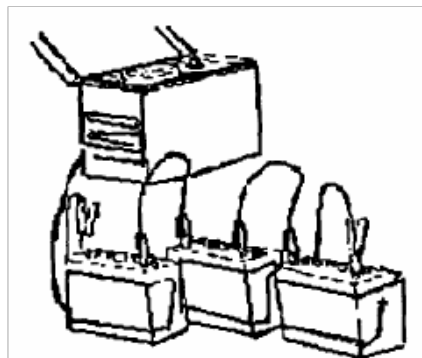

Figure 4-4
- (4) Series battery connections. These connections are used with slow rate of charging systems. Slow rate chargers are of constant current type allowing series connections between the charging unit and the batteries. The number of batteries that may be connected in series to this charging unit depends upon the voltage rating of the charger. The series connection will have the negative (-) terminal of one battery connected to the positive (+) terminal of the next battery. When all batteries of the group are connected, the cables of the charger are connected to the remaining negative (-) and positive (+) battery terminals accordance with the written instructions of the manufacturer for the charger used. Perform all charging operations in accordance with the charger manufacturer instructions. (Figure 4-4)